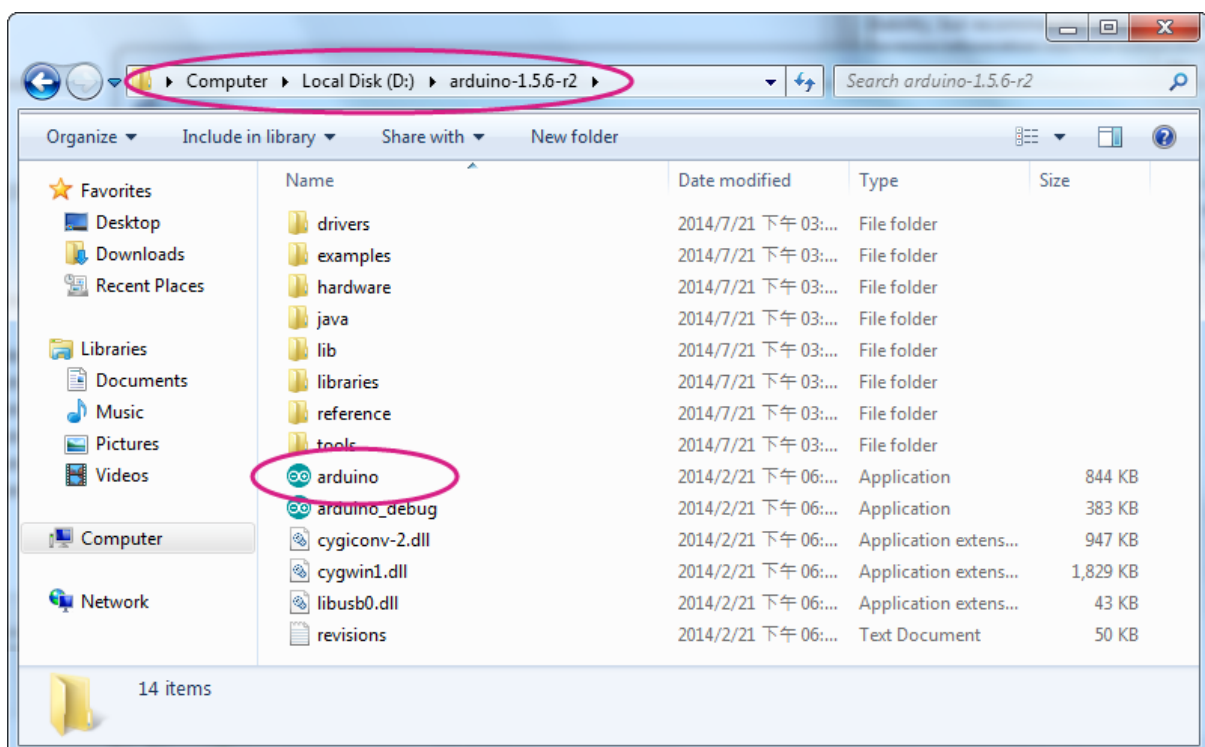

Figure 5 The Arduino installation folder containing Arduino.exe
- 3 After installation, note the folder in which you installed Arduino IDE, which is the folder containing `arduino.exe` (as shown in Figure 5). You'll install the LinkIt SDK into this folder.